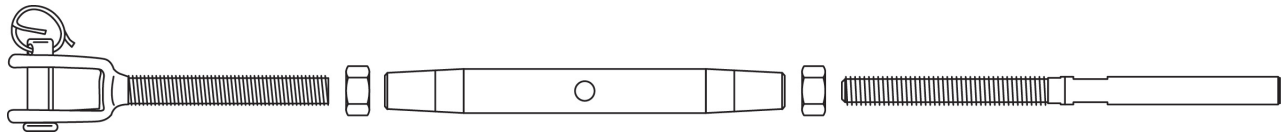

Fig 7
**NOTE:** Individual components may need assembly (Fig. 7).